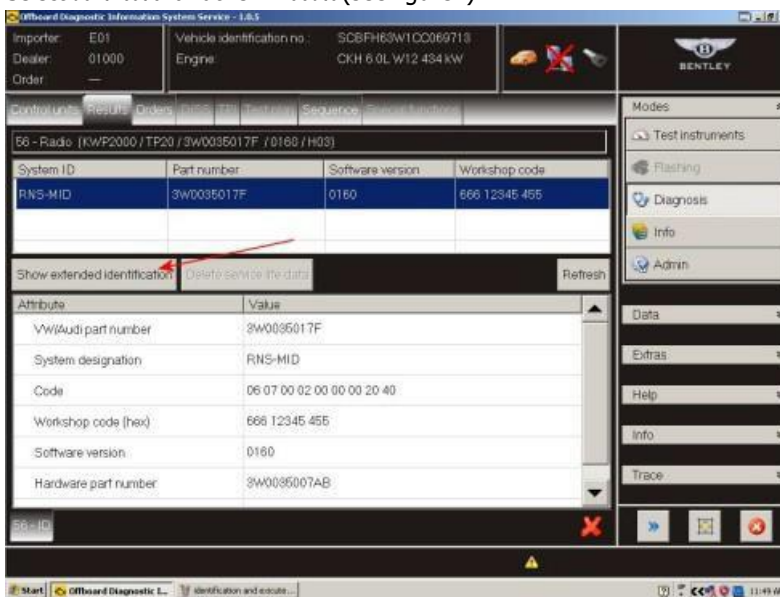

Figure 5
- Select *Show extended identification* (see Figure 5)